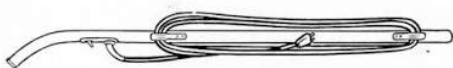

FIG. 13—A handle and cord assembly
1. Handle and Cord Assembly. Figure 13.